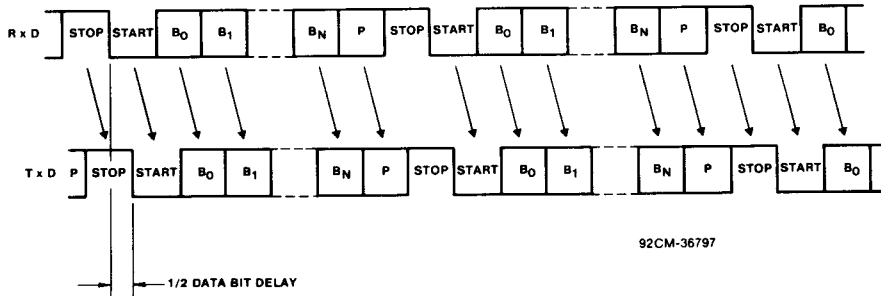

Fig. 12 - Echo mode timing.
**Echo Mode Timing (Fig. 12)**